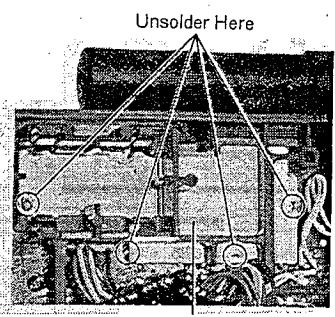

Fig. 18
3. Unsolder the shield plate, as shown in fig. 18.